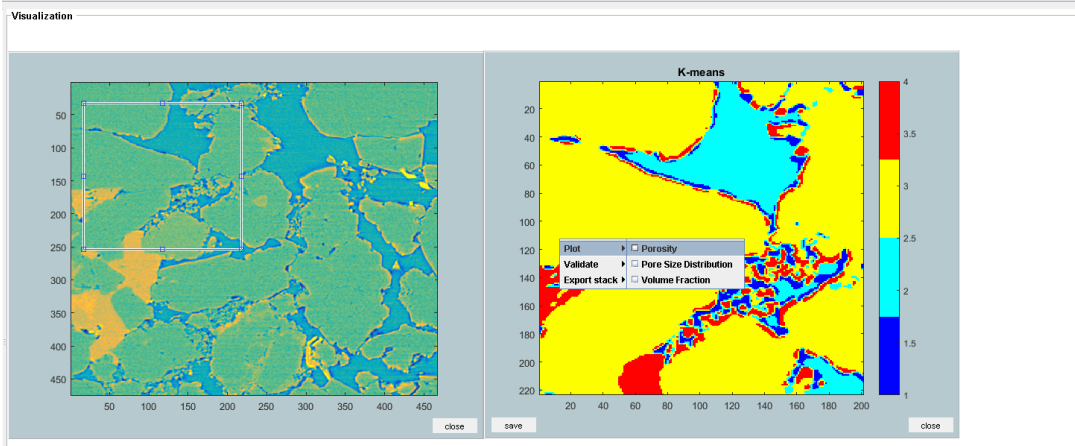

Figure 30: Plotting porosity
- Figure 30 shows plotting porosity. **Right click** on the segmented slice select **Plot -> Porosity**.